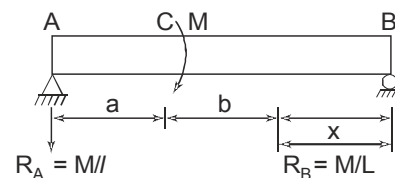

Fig. 1
7. (a) Draw SF and BM diagrams for the beam with applied moment as shown in Fig. 1. (15)